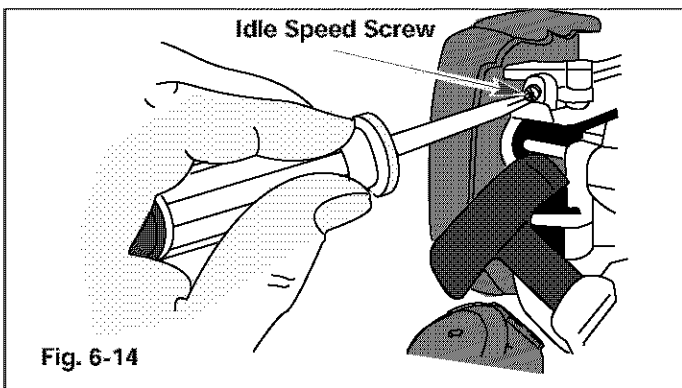

Fig. 6-14
The idle speed of the engine is adjustable by the screw next to the air filter cover (Fig. 6-14).
2. Release the throttle trigger and let the engine idle. If the engine stops, insert a small phillips or flat blade screwdriver into the screw next to the air filter cover (Fig. 6-14). Turn the idle speed screw in, clockwise, 1/8 of a turn at a time (as needed) until the engine idles smoothly.